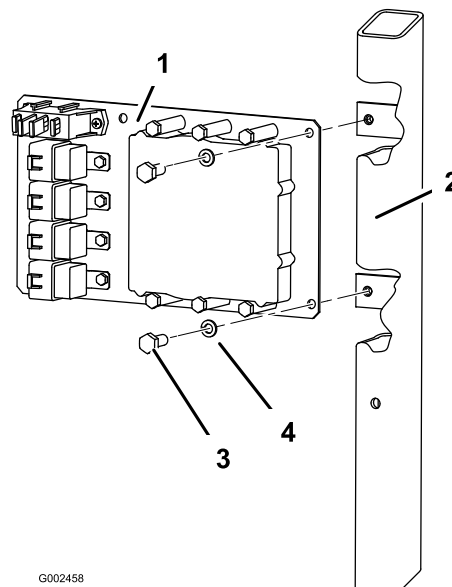

Figure 9
B. For the Multi Pro 5600 and 5700 install the mount plate using 2 bolts (5/16 x 3/4 inch) and 2 lock washers (5/16 inch) as shown in Figure 9.